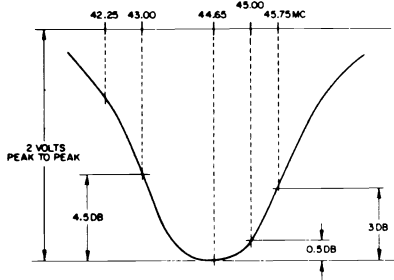

Figure 8 - Typical IF response, 2nd IF Amp Grid to 2nd Det.
| 2.   | Oscilloscope and VTVM to TP (B) IF sweep generator with CW marker to TP (E) .a. 44.65 MC.b. 45.75 MC.   | a. T202 primary (top slug): Maximum amplitude on VTVM. T202 secondary (bottom slug): Rocking symmetrical response at 44.65 MC.b. Place 45.75 MC marker at 70% of peak response (see Figure 8 for waveshape and marker placement. |